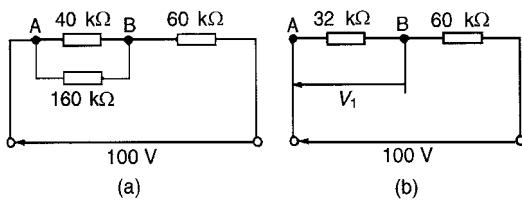

Figure 10.12
- (b) The resistance of a voltmeter having a 100 V f.s.d. and sensitivity $1.6\text{ k}\Omega/\text{V}$ is $100 \times 1.6\text{ k}\Omega/\text{V} = 160\text{ k}\Omega$. When the voltmeter is connected across the $40\text{ k}\Omega$ resistor the circuit is as shown in Fig. 10.12(a) and the equivalent resistance of the parallel network is given by
The circuit is now effectively as shown in Fig. 10.12(b). Thus the voltage indicated on the voltmeter is